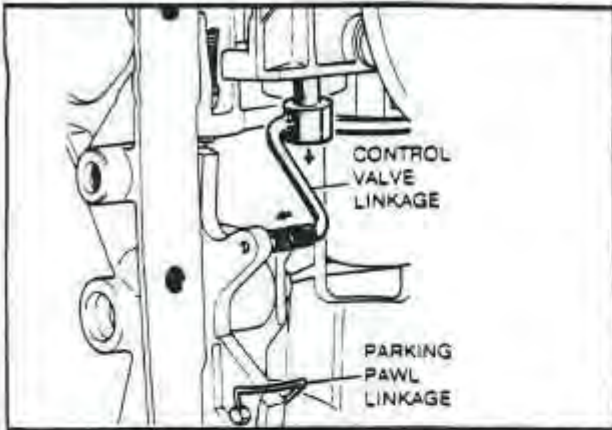

Fig. 33 MANUAL CONTROL VALVE AND PARKING PAWL LINKAGE
9. Remove the parking pawl link retaining clip and remove the link. *Fig. 33*